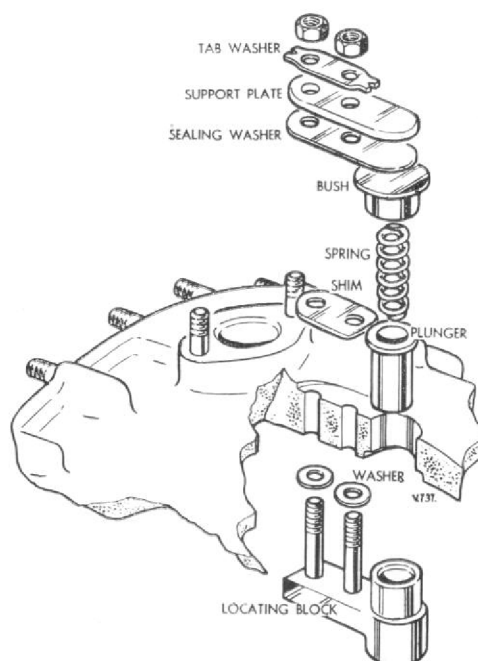

Fig. 3. Spring-loaded plunger assembly, mod. 743, 987, and 1113.
2. Unlock and remove the two 2 B.A. plain nuts which secure one of the spring-loaded plunger assemblies, Fig. 3. Remove the locking washer, the support plate, the sealing washer, the shim, the flanged bush and the spring. Withdraw the locating block with its studs and plain washers. Repeat this operation to remove the second plunger assembly.